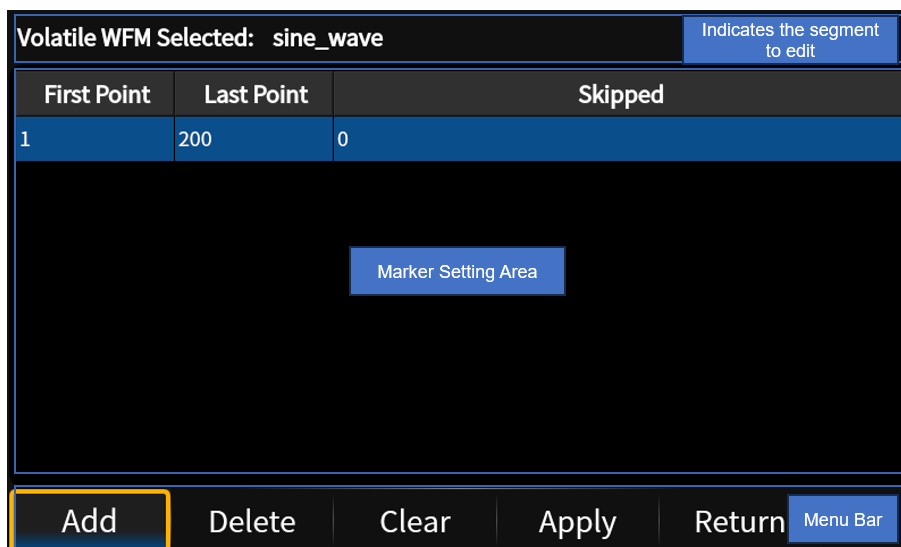

Figure 8-17 Segment marker setting interface
- If you choose to play a waveform segment, you can directly edit the marker of the waveform segment in the marker point setting interface, as shown in Figure 8-17.